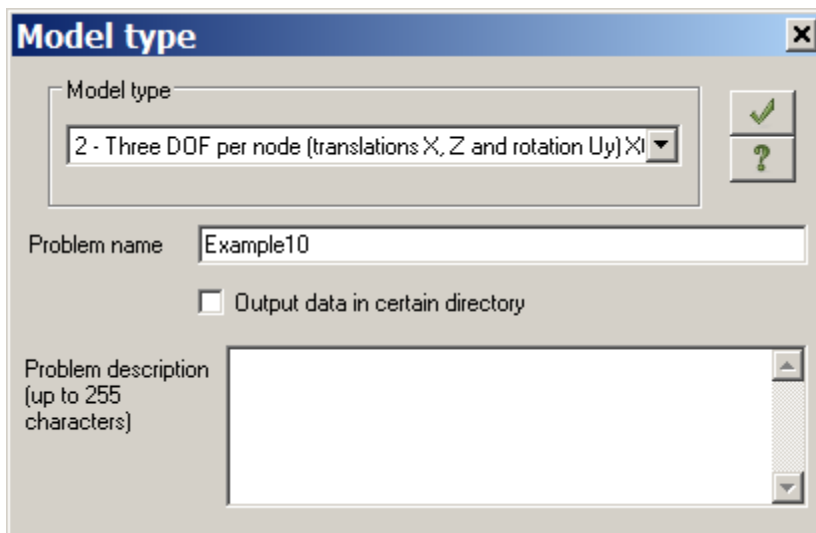

Figure 10.2 **Model type** dialog box
- ⇒ In the **Model type** dialog box (see Fig.10.2) specify the following data: